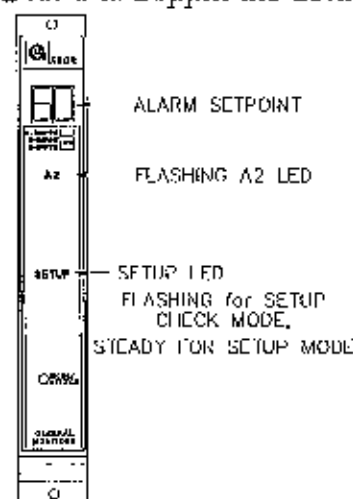

Figure 26
- The last A2 alarm option to appear on the display will be the alarm set point (trip level). If this level is reached or exceeded the A2 alarm outputs will activate. The display will indicate the current A2 alarm set point (figure 26). Press the Mode/Select switch repeatedly, until the desired A2 alarm set point appears on the display. **60** is the factory default for 0 to 99ppm scale for this selection. The default for 0 to 50ppm is 30 and for 0 to 20ppm the default is 10.